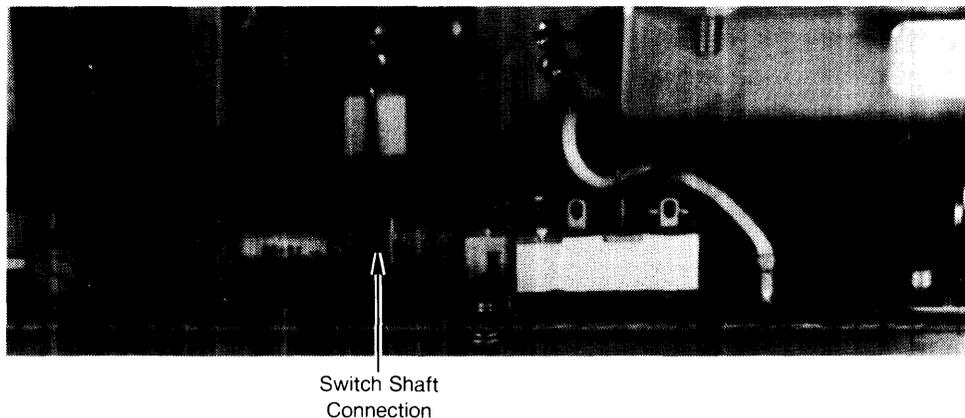

Figure 2-7. ON-OFF Switch Shaft Connection.
6. Remove the switch shaft from the ON-OFF switch by gently pulling the switch shaft off the switch. Refer to Figure 2-7.